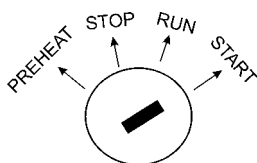

Figure 50. Engine Speed Switch (low)
8. If the generator has a starter switch, turn the key to 'START' (Figure 50) until the engine starts. Then release the key to set it at 'OPERATION' function.